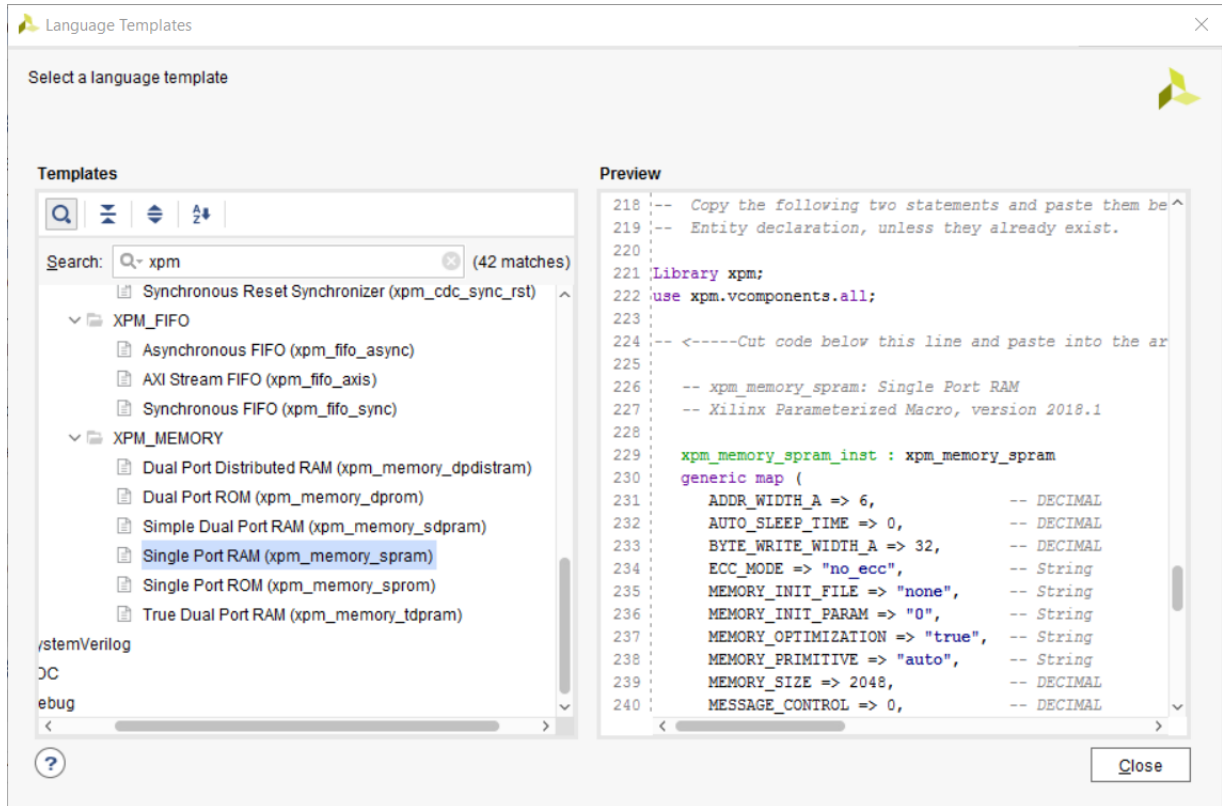

Figure 7-9: Language Template Dialog Box
13. The Language Template dialog box opens. In the **Search** field type **xpm** and select the template for the appropriate HDL code (VHDL/Verilog), shown in Figure 7-9.